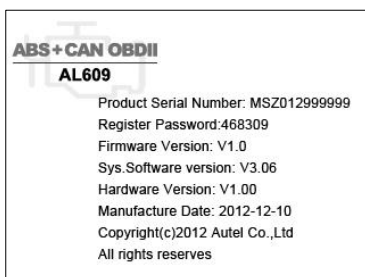

Figure 3.7
- 2) View the tool's information on the screen. (Figure 3.7) Press the **ESC** button to exit.